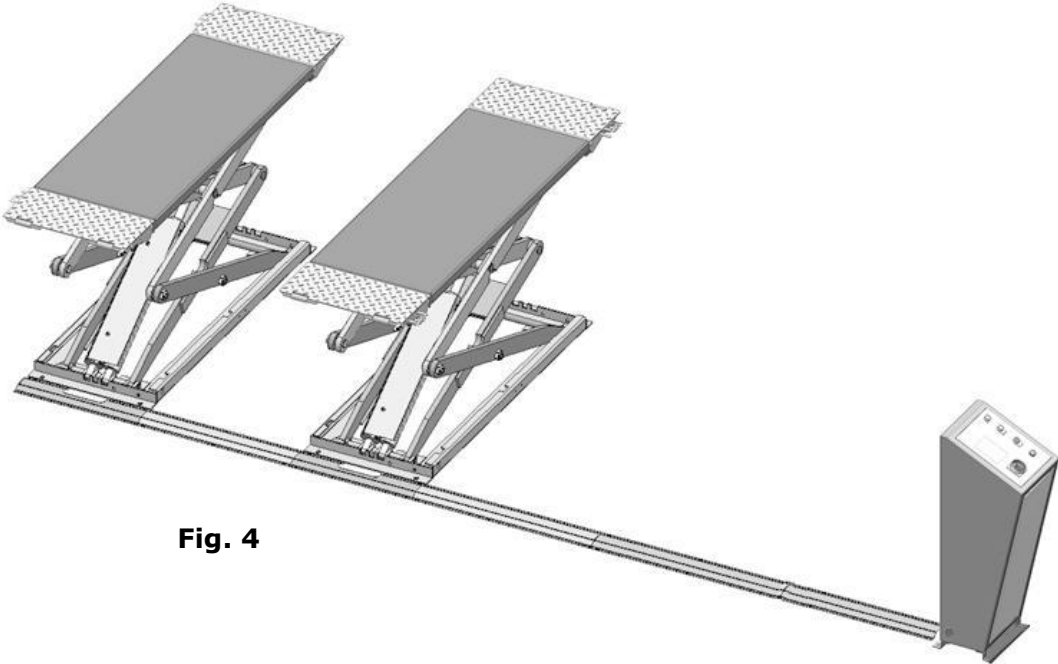

Fig. 4
A. Control cabinet placement diagram 1. See Fig.4